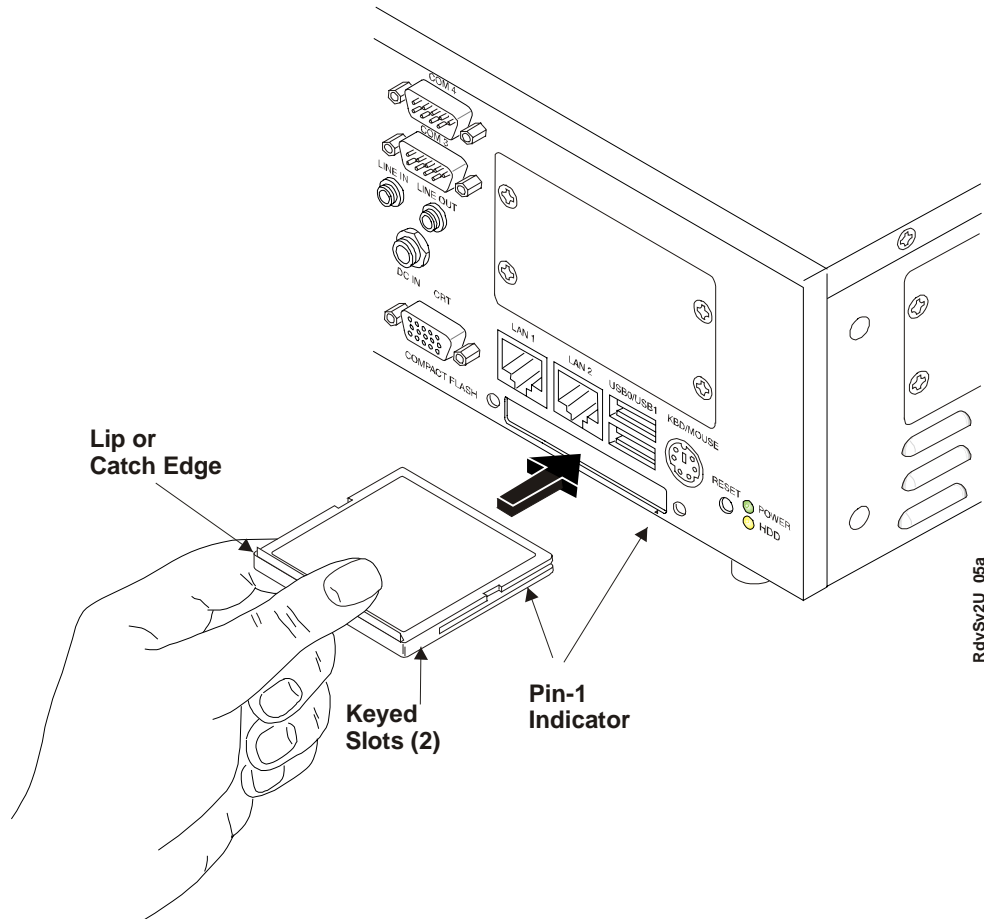

Figure 2-2. Installing the Compact Flash Card
7. Insert the compact flash card into the opening provided by matching the pin-1 orientation of the compact flash card with the arrowhead on the I/O panel. See Figure 2-2.
NOTE The keyed slots and lip (or catch edge) on the compact flash card are used to install into the socket in only one orientation. Pin-1 should be down and to the right as shown in Figure 2-2.
8. Push the compact flash card into the opening until it firmly seats into the socket and mates with the pins. See Figure 2-2.